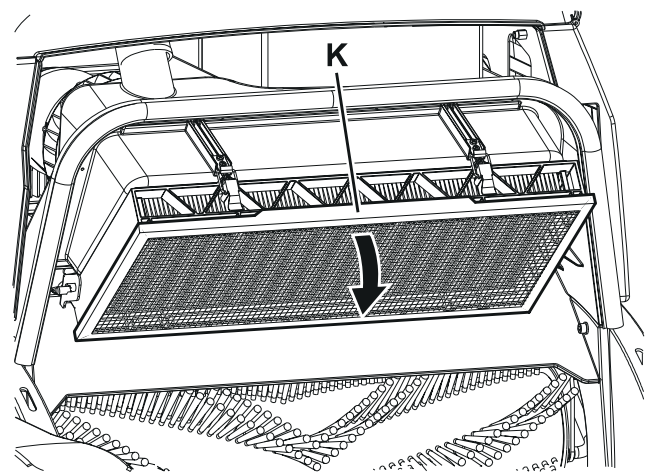

Figure 13
12. Remove the pre-filter (K, Fig. 13) and clean it with compressed air at maximum 6 Bar.